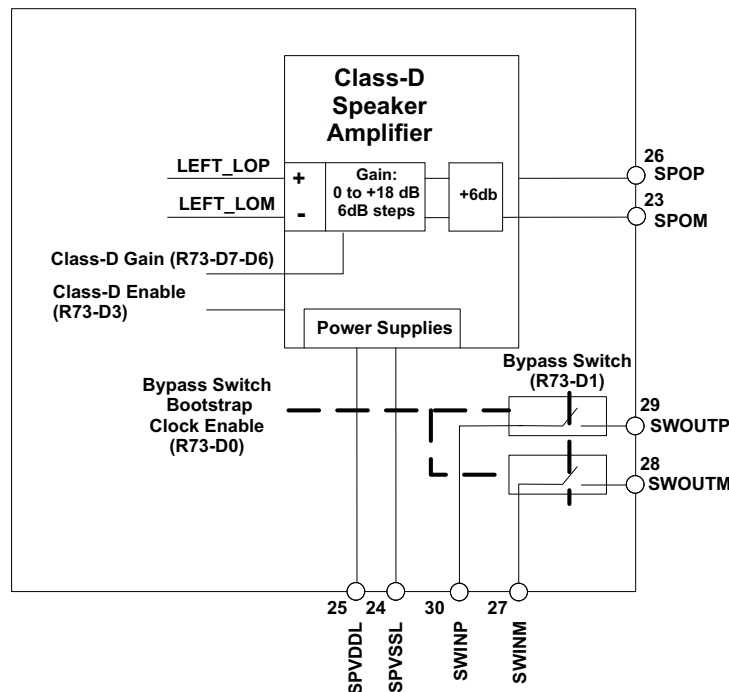

Figure 28. Differential Class-D Speaker Circuit
Differential Class-D speaker outputs are available on the SPOP and SPOM pins as shown in Figure 28. The integrated Class-D speaker amplifier can drive a one Watt audio signal into a differential 8- $\Omega$  load. The plus input to the Class-D amplifier is the same signal available at the left lineout LEFT\_LOP pin. The minus input to the Class-D amplifier is an internal signal that is sourced as shown in Figure 32. A register (73) is used to enable the Class-D amp and set its gain control (0 dB to +18 dB). Following the gain control and before the outputs is a fixed +6 dB gain. Note that there are many other gains available in the signal path leading up to the Class-D amp so for best results the user must map the gains correctly.